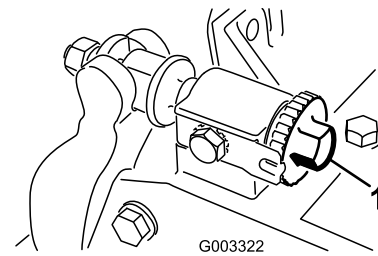

Figure 23
1. Loosen reel to bedknife contact by turning the bedknife adjusting knobs (Figure 23) counterclockwise until no contact exists.